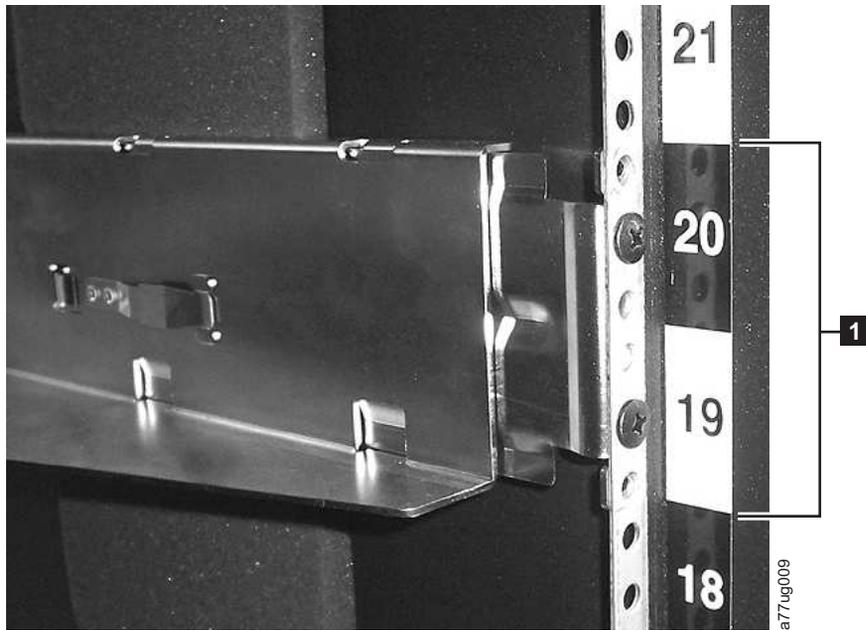

Figure 27. Rear view of Rack Kit A which shows the narrow part of the rail located at the rear of the rack.
- 2 rails (not shown) See Figure 27 on page 45 for a graphic of the rails.
- Using the screws for your rack type (round holes or square holes) and a #2 Phillips screwdriver and ensuring that the flange on each rail points toward the other to form a shelf, secure one rail to each side of the rack in your chosen rack location. Secure both the front and back of each rail to the rack. The narrow end of each rail goes to the rear of the rack. The rails extend to fit a variety of rack depths. Each rail requires 2U of rack space (**1** in Figure 27).